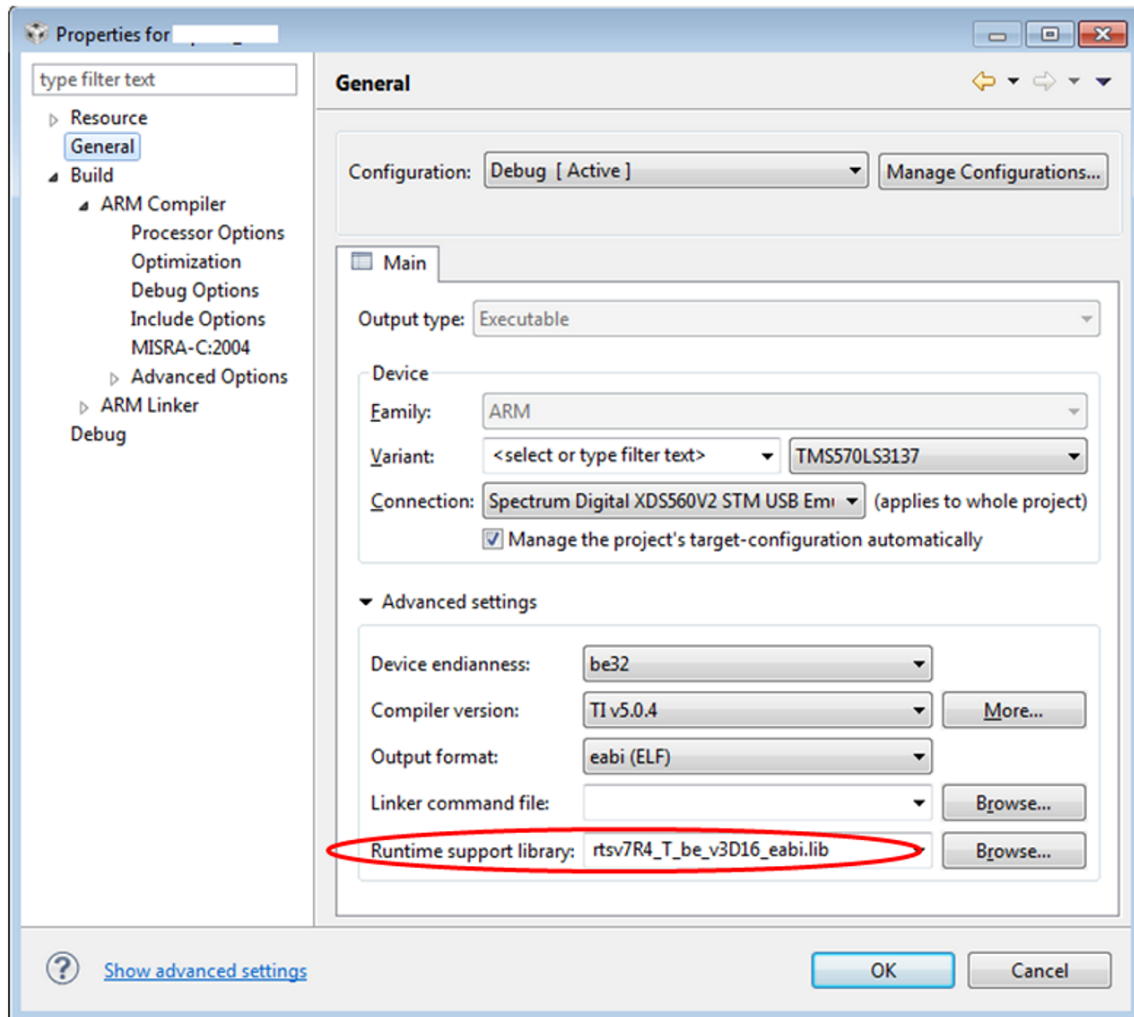

Figure 17. Runtime Library Selection
- Runtime support library is used for the CCS project as shown in Figure 17 (Step 3).